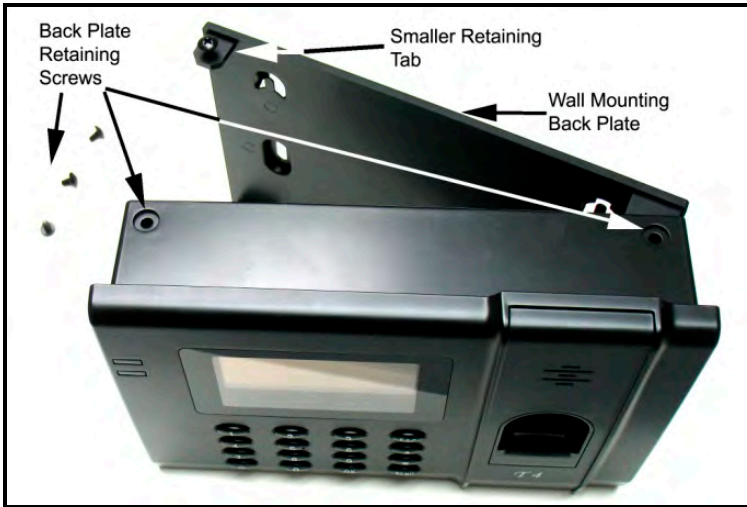

Figure 1-2 Back Plate For Wall Mounting
1. Loosen and remove the four (4) back plate retaining screws to remove the back plate as shown (see **Figure 1-2**). Set the FPT-40 terminal face up on a flat surface.